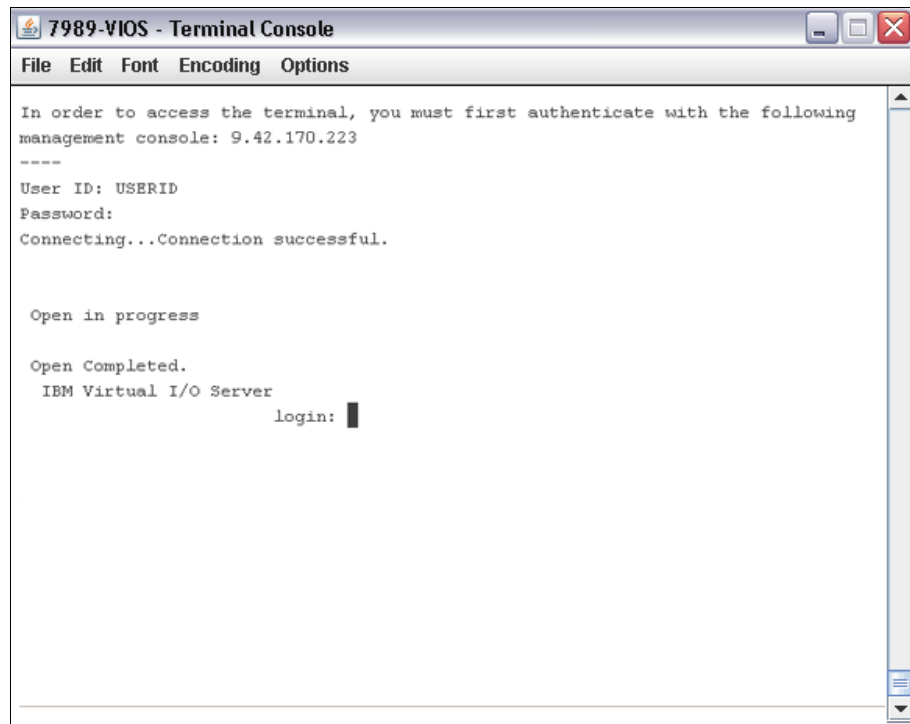

Figure 7-58 Terminal console access and authentication
- When the terminal console opens (as shown in Figure 7-58), the management console (FSM) IP address and the current User ID are shown in the window. Enter the password for the current FSM User ID to access the terminal.